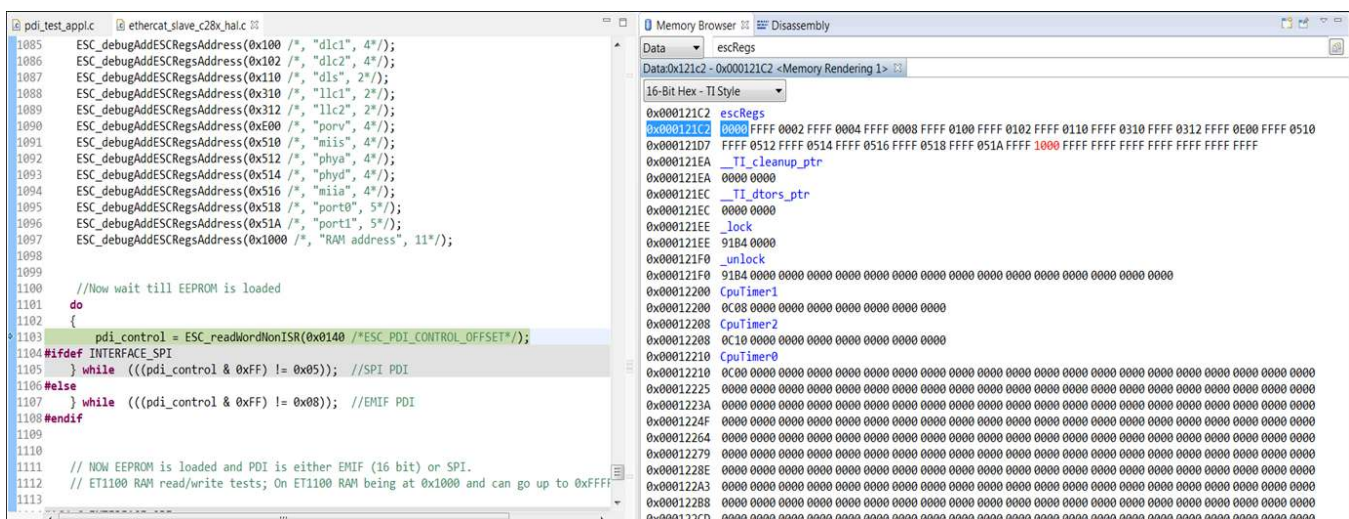

Figure 35. Device Debug Memory Window at INIT Time
3. Start the debugger and open the memory browser window as shown in Figure 35. The “escRegs” data array contains a list of ET1100 register addresses and values. These get updated in the *ESC_debugUpdateESCRegLogs()* function.